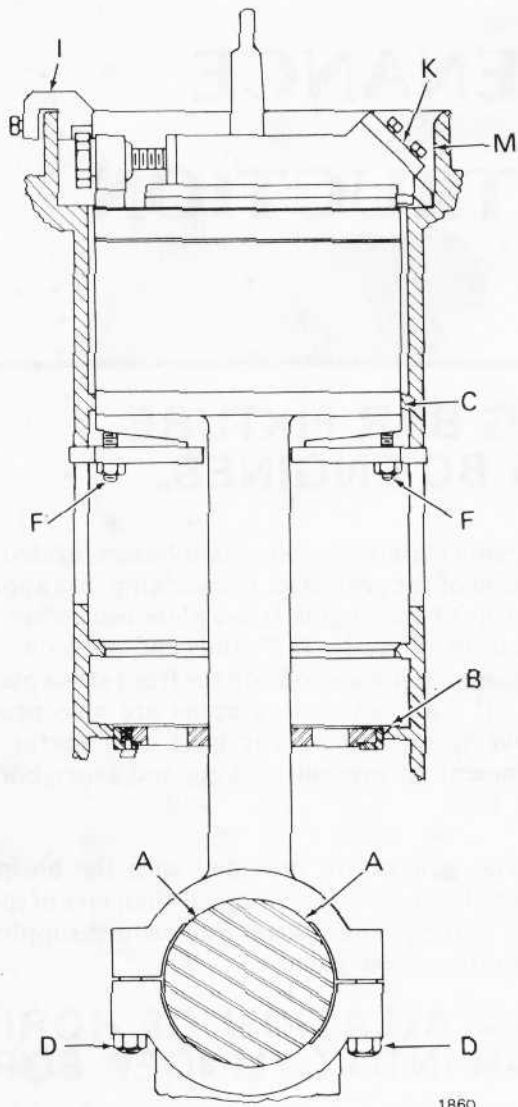
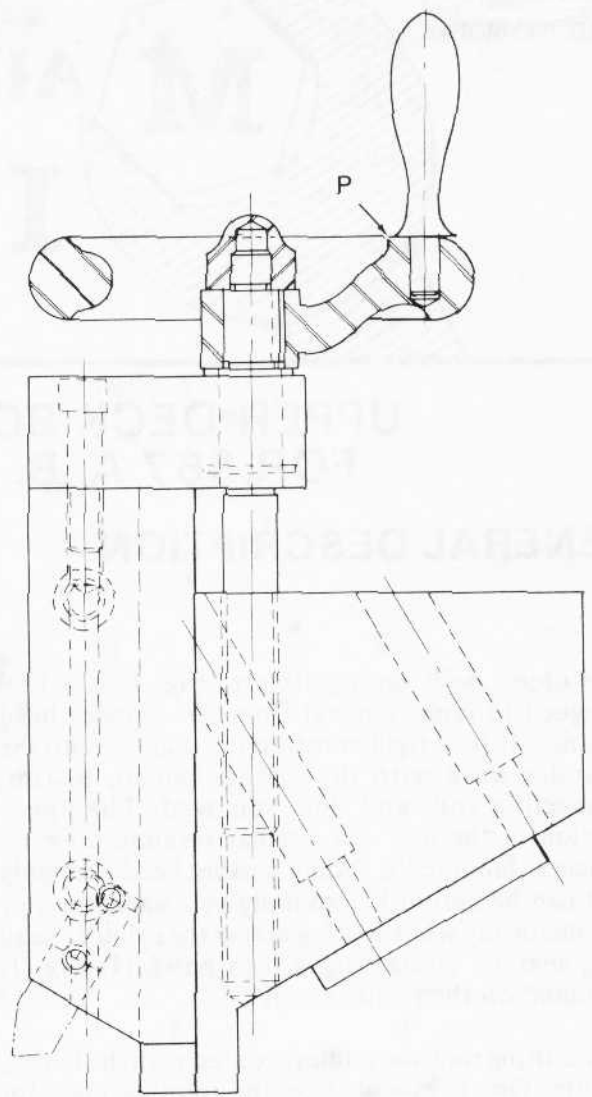
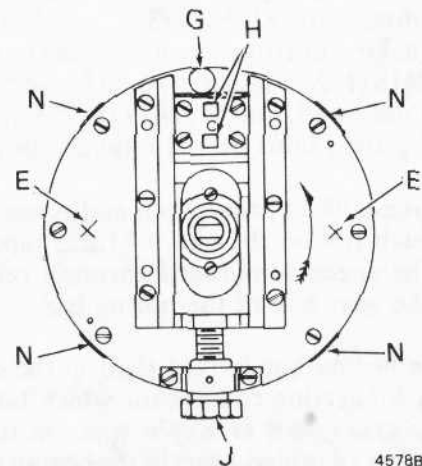

Fig.1 - Upper Deck Boring Fixture
Fig.2 - Vertical Boring Feed
Fig.4 - Top View Of Boring Fixture
The upper deck boring fixture, Fig. 1, is a tool designed to remove metal from the cylinder head retainer. It is of rigid construction and fits into the cylinder bore with the cylinder head, piston, connecting rod, and liner removed. The upper portion of the tool is a circular rotating table on which is mounted a sliding cutting head assembly that can be moved horizontally by a handwheel or automatically while cutting across the cylinder head ring seat by contacting a feed pawl, (I) Fig. 1, mounted on the retainer wall.
Two cutting tool assemblies are used with the boring fixture. One is mounted on the rotating plate for cutting horizontally across the retainer seat, (K) Fig. 1. The other, a vertical cutting assembly, Fig. 2, is mounted on the horizontal assembly by four socket head cap screws and is used for vertical cuts on the retainer wall, (M) Fig. 1. The tool bits used with these assemblies are: 8116829 (3/4" x 3/4" x 4-3/4") used for making horizontal cuts across the retainer seat. 8122418 (1/2" x 1/2" x 2") used for vertical cuts on the retainer wall, and 8122419 (1/2" x 1/2" x 2") for forming the radius on the retainer shoulder.
Aligning clamps fit across two bosses located at the bottom of the gear case. These clamps are applied to the top of the engine stress plate inspection holes, and drawn tight by 1/2" studs and nuts, one on the rear stress plate and one on the front stress plate, (F) Fig. 1. Four shimming areas are also provided above this point on the gear case for accurate alignment to prevent cocking and taper bore, (C) Fig. 1.
4. Install boring fixture lifting hooks by removing plate anchor setscrews, (E) Fig. 4, so hooks can be bolted to the tool. Remove connecting rod anchor bearing cap.
6. Use a .0015" feeler gauge and check at points (A) Fig. 1 to be sure that crankpin is directly on top dead center and that the bar is positioned correctly on the crankpin.
7. Install the connecting rod anchor lower cap, and secure with bolts, (D) Fig. 1.
8. Use an .008" feeler gauge, to check around circular locating ring at lower water manifold plate, (B) Fig. 1. Shim this locator at four points, if necessary, to maintain center of cylinder bore.
9. Employing the same method as in Step 8, check the top locator at bottom of gear case, (C) Fig. 1. Note that this locator has clearance to allow for any out-of-round due to heat from the exhaust ports, and has four checking points. Check these points, (N) Fig. 4, to prevent cocking of the fixture and taper boring.
10. To insure proper location of the fixture install two dial indicators, by clamps and extensions. Locate them on the rotating plate 180° apart at points, (E) Fig. 4.
12. Install clamps and nuts, (F) Fig. 1. Tighten clamps until both indicators read .005" minus.
1. Set the .105" tool setting gauge, provided with the fixture, on the gauge button of the rotating plate, (G) Fig. 4. Bring cutting edge of the horizontal tool bit down snug on top of the .105" gauge, then tighten tool. Remove the gauge. *The cutting tool will then be set for the rough cut.*
2. Run the cutting tool sliding assembly out manually by using the ratchet on the adjusting screw, (J) Fig. 4, until tool just clears the metal to be removed.
3. Set the automatic feed pawl, (I) Fig. 1, on the retainer shoulder and rotate the turning plate which carries the cutting tool, by hand, to see if the feed pawl contacts the adjusting screw in proper relation.
7. Start the motor and take a rough cut across the retainer cylinder head seat almost to the retainer wall, (M) Fig. 1, until the 13.675" I.D. gauge slips in.
9. Set the .085" cutting tool gauge on the gauge button, (G) Fig. 4, of the rotating plate, and bring the cutting tool down snug on this gauge. This will allow the cutting tool .020" for the finish cut. Make sure that the edge of cutting tool is sharp.
1. Apply the vertical feed attachment 8081135 to the boring fixture. This attachment is shown in Fig. 2. It is applied to the fixture by four socket head capscrews 138244 supplied with boring bar.
3. Raise the cutting tool with the vertical feed until it is at the top of the wall to be cut. Set the cross feed with the horizontal adjusting screw, (J) Fig. 4, to allow a moderate cut. Lower the tool bit with the vertical adjusting wheel, (P) Fig. 2.
1. In the event the crankshaft has been ground, it will be necessary to shim at (A) Fig. 1, to attain
- standard size, or use the special seat ring (B) Fig. 1, supplied with the tool.